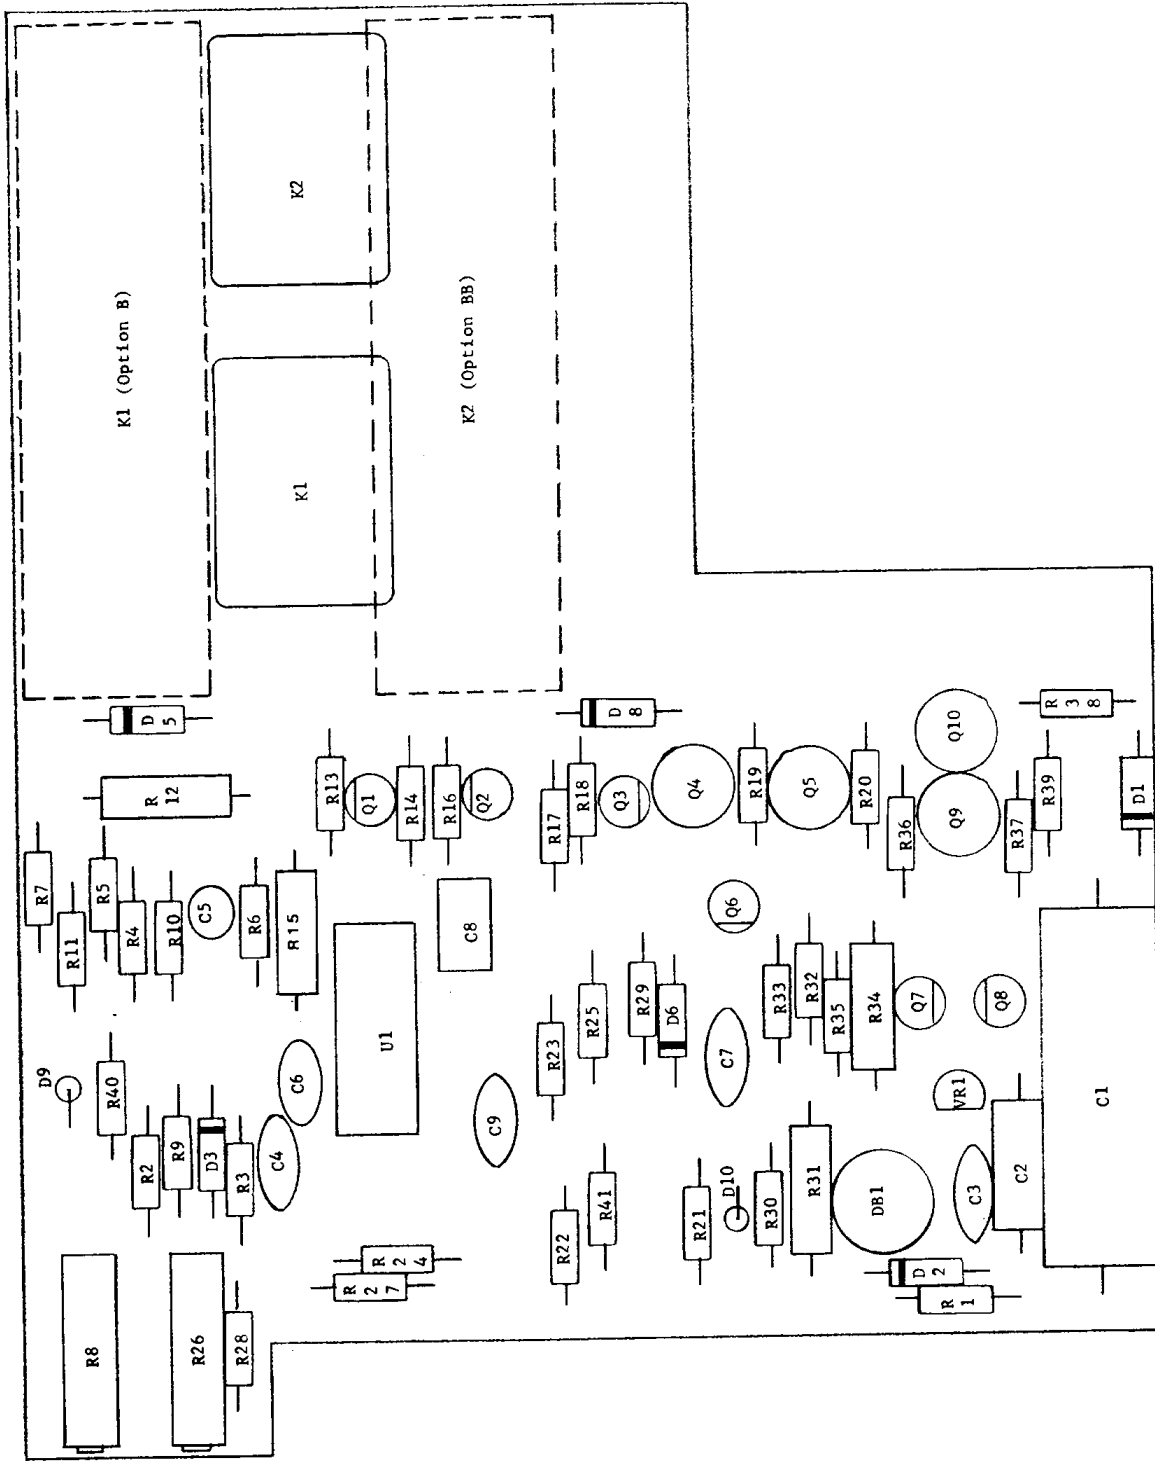

Figure 5-2 - COMPONENT LOCATION, 18-132 HIGH-LEVEL ALARM
- b. Figure 5-2 - Component Location, 18-132 High Level Alarm